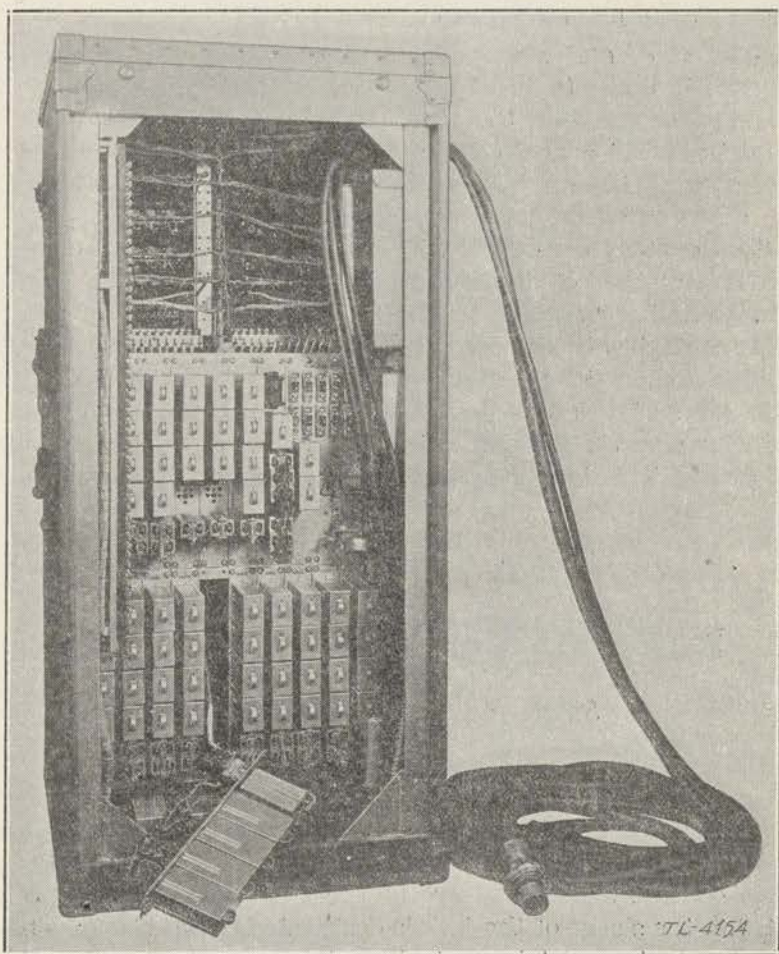

FIGURE 6.—Switchboard BD-89-A and junction box JB-19, rear view, cord circuit mounting plate removed.
a. *Equipment layout.*—The front equipment layout is shown in figure 1 and described in paragraph 2a(2). The rear equipment layout is shown in figure 6. The lower section of the switchboard is occupied by the cords, a rack upon which are mounted all cord circuit relays, capacitors, operator's telephone circuit apparatus, trunk circuit equipment, and switchboard fuses. All equipment associated with each individual circuit unit is mounted on individual mounting plates for ease in replacing complete units. The upper section of the switchboard is occupied by the jack and signal